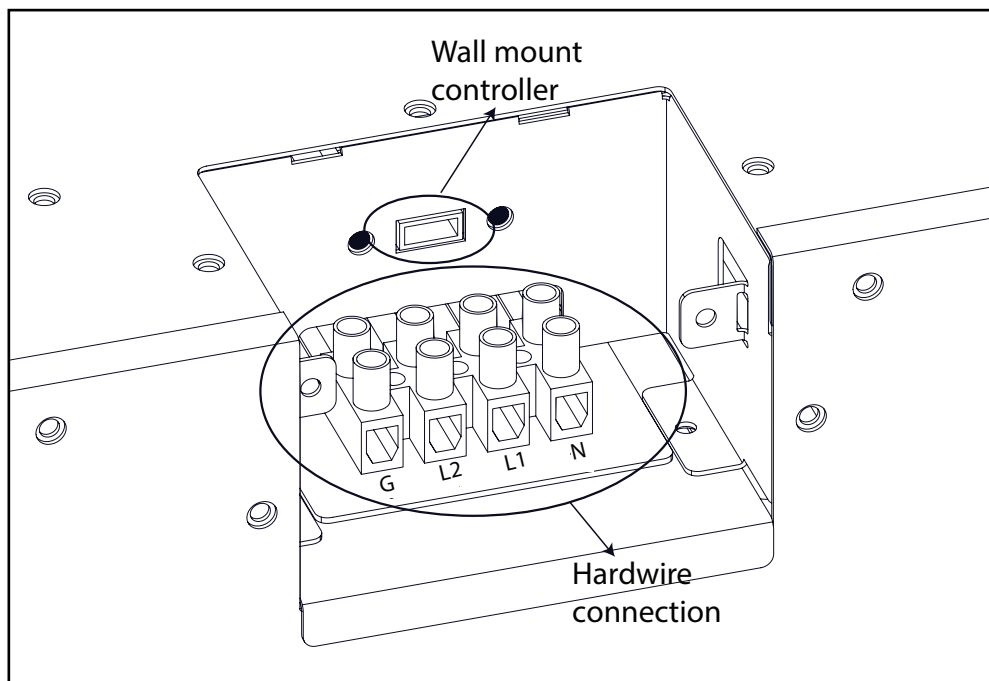

Fig. 4
1. Locate the desired 2 conductor or 3 conductor wire cable to the top right side of the enclosure for the hard-wiring installation based on the desired 120V or 240V heat output capability **(Fig. 4)**.